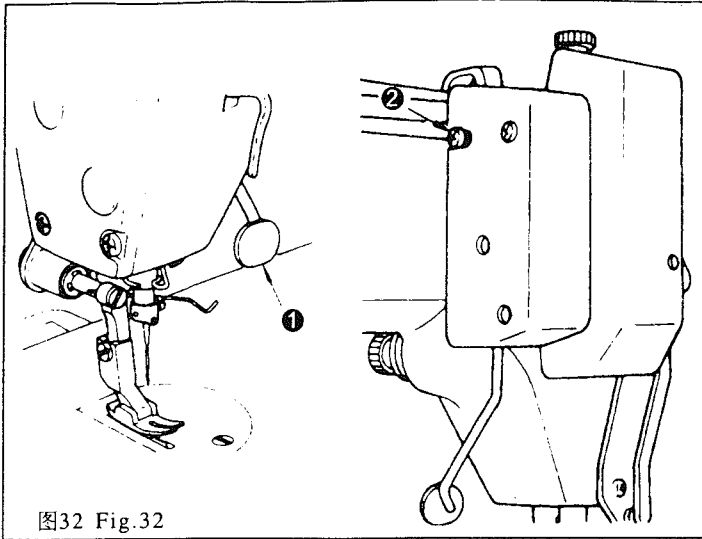

图32 Fig.32
2) Loosen adjust screw ④, and adjust the length of connecting rod ②.
25. 手触倒缝装置(图32)
25. ONE-TOUCH TYPE REVERSE FEED STITCHING MECHANISM (Fig.32)